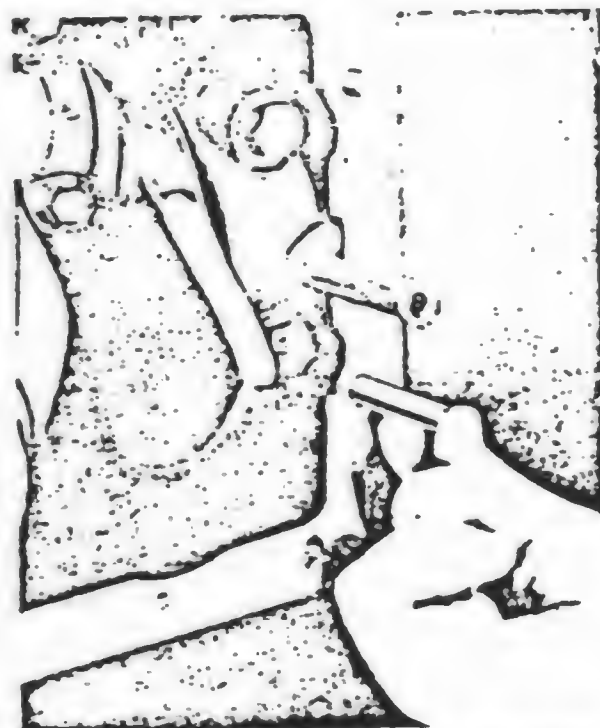

FIG. 27 REAR BEARING CAP PACKING
(3) Should it be necessary to install a new seal in the crankcase, it will require the removal of the engine from the housing and the removal of the crankshaft. The same procedure should be followed when installing a crankcase seal as when installing a seal in the bearing cap.
(4) When installing rear main bearing cap to case, a little sealer should be put on the faces of the cap where it fits against the case. The rubber seal packing that goes between the main bearing cap and the case is cut to a given length and will protrude down from the case approximately 1/4". When the oil pan is installed it will force this seal tightly into the holes and prevent any oil from leaking from the engine into the generator adapter. See (Fig. 27).